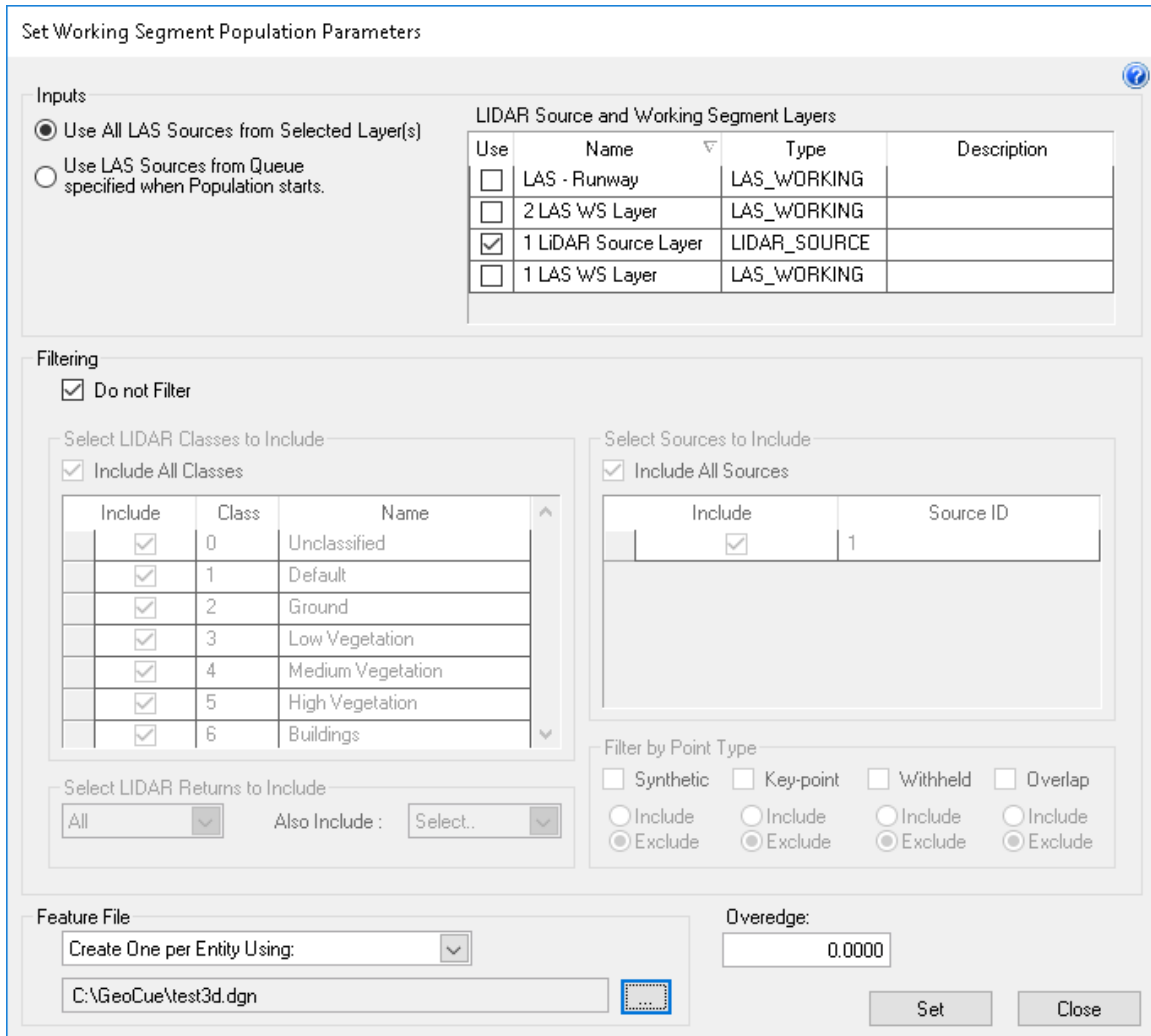

Figure 16-6 The Runway Segment Population parameters
2. Execute the Set Population parameters step, setting the dialog to the values shown in Figure 16-6. Note that LIDAR Sources is being used as the layer from which LAS data is being sourced. Note also that we have used the Madison Seed file for the Create Associated Design File option. Press **Set** when complete with the dialog.